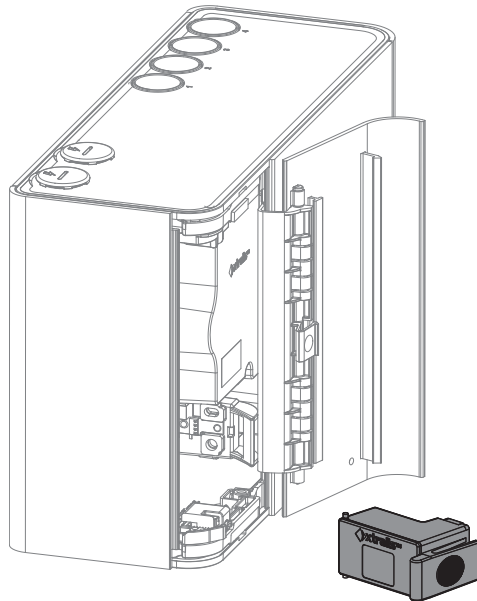

Figure 7-4: Remove Filter
4. Lift the filter out of the detector case (Figure 7-4).